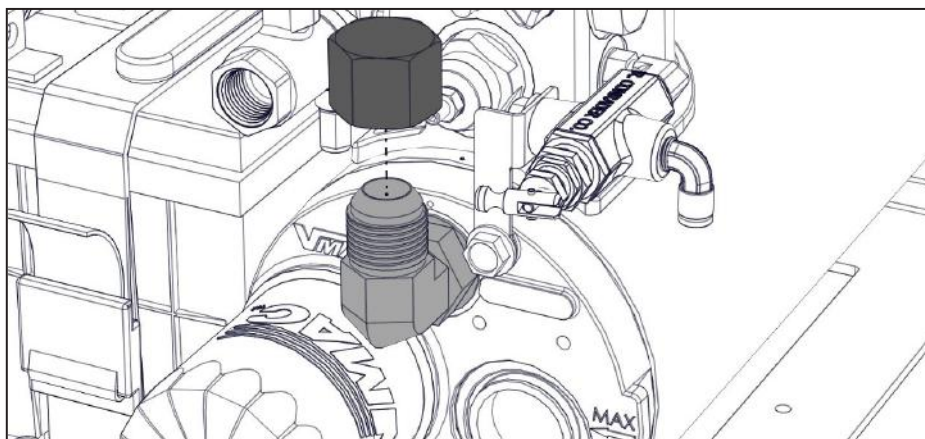

Figure 41 — Compressor oil fill
- ☐ Remove the filler cap on the WHASP Tank. Fill the WHASP Tank with VMAC compressor oil until it reaches the "MAX" mark. The air compressor system holds approximately 4 L (1 USG) of oil (Figure 41).